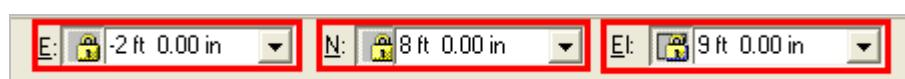

Figure 7. 17: The Required Coordinates Selected on the Pinpoint Ribbon
38. Rotate the nozzle using the arrow keys so that the **Flange** faces vertical, as shown in Figure 7. 18 and click to place the nozzle.